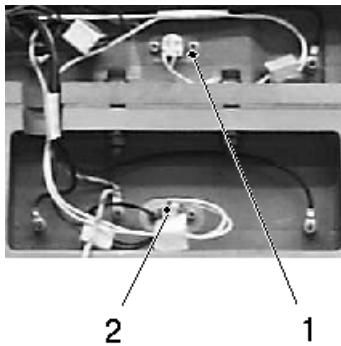

Figure 7-8
1. Release fixing screws and (1, 2, Figure 7-8) remove the old thermostat.